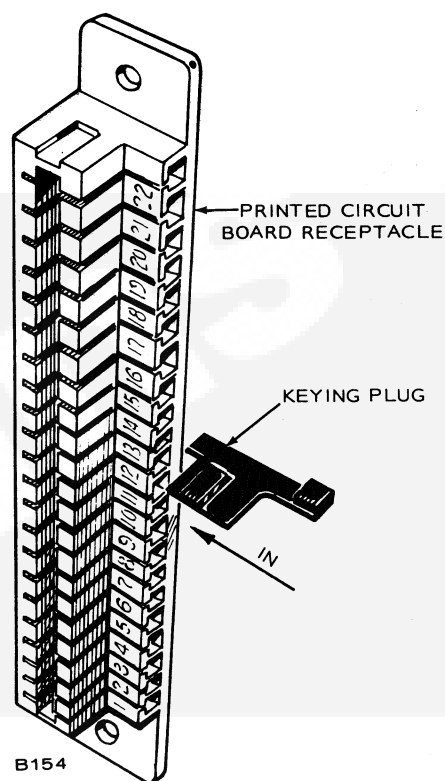

FIGURE 9. INSTALLATION OF KEYING PLUG
5. Install keying plug(s), #332-2114 for begin Spec B or #332-1276 for Spec A OT, in the slot(s) of the printed circuit board receptacle as needed. Figure 9 shows how a keying plug is inserted into the receptacle. See a control accessory panel wiring diagram which shows location of the keying plug(s) for that particular module.